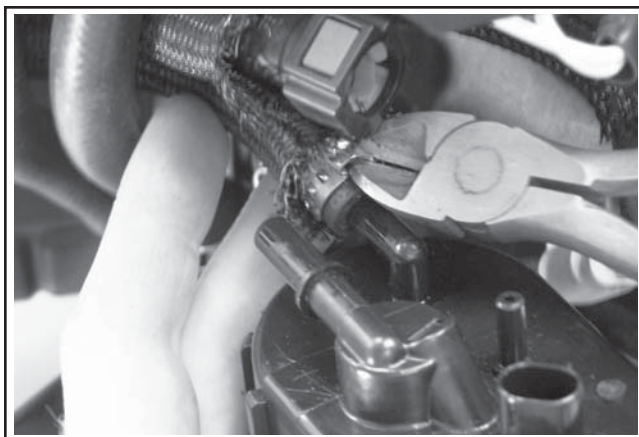

**Figure 8-15. Slowly Pull Connector.**
3. Disconnect the vent hose from the top of the fuel pump module. See Figure 8-15.
5. Press the release button(s) and slowly pull the connector away from the fuel pump module allowing the shop towel to absorb any residual fuel in the high pressure fuel line. Any spilled fuel must be completely wiped up immediately. See Figure 8-15.
**NOTE:** Figure 8-15 depicts removing the connector without a shop towel wrapped around it for instructional purposes only.